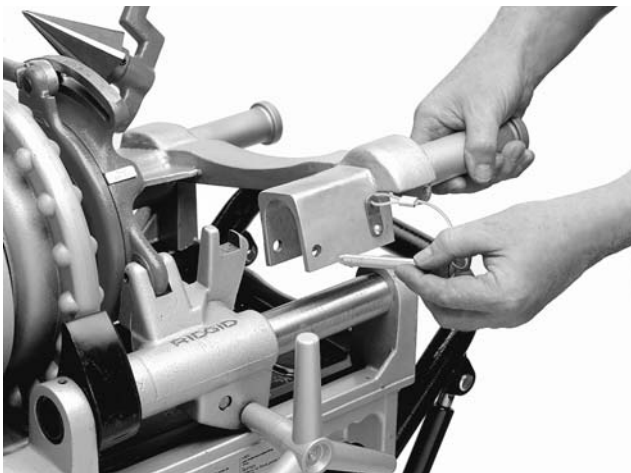

Figure 5 – Attaching Adapter Bracket to 300 Compact Threading Machine
2. Place the adapter bracket onto the rails of the 300 Compact and lock into place using the attached pin (Figure 5).